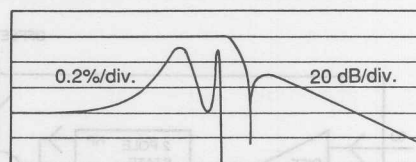

Figure 2. 4-Pole CAUER Response
4. The frequency responses of the 4-pole and 5-pole Gauer filters are shown in Figures 2 and 3 respectively. Figure 4 details the response of a cascaded pair of frequency matched 4- and 5-pole filters. The response for a cascaded pair is similar to a 7-pole Gauer, as shown in Figure 5.